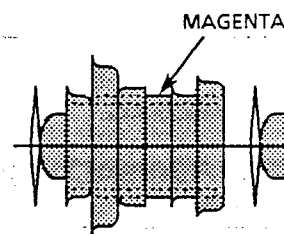

Figure 2-13.
4. Adjust FL5306 (1.1MHz bell filter) so that the match with in doubled portion of the magenta as shown in Figure 2-13.